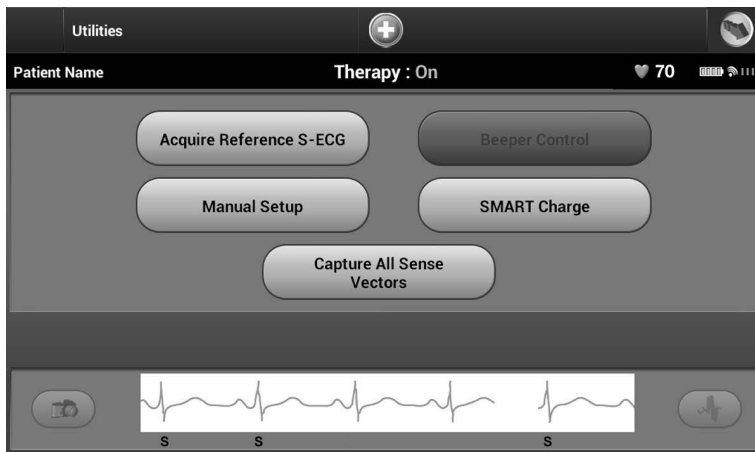

Figure 45: *Utilities screen*
It is also possible to capture S-ECGs corresponding to all three sense vectors (Primary, Secondary, and Alternate) by using the Capture All Sense Vectors button on the Utilities screen (Figure 45).
2. Select the Utilities button. The Utilities screen appears (Figure 45).